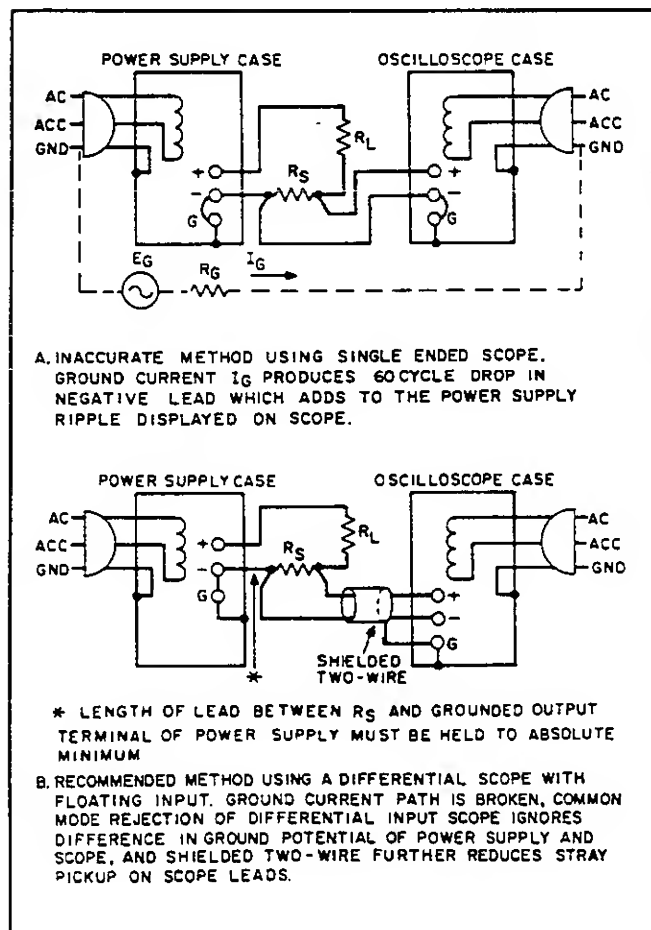

Figure 5-8. Constant-Current Ripple and Noise Test Setup
**5-47** Most of the instructions pertaining to the ground loop and pickup problems associated with constant-voltage ripple and noise measurement also apply to the measurement of constant-current ripple and noise. Figure 5-8 illustrates the most important precautions to be observed when measuring the ripple and noise of a constant-current